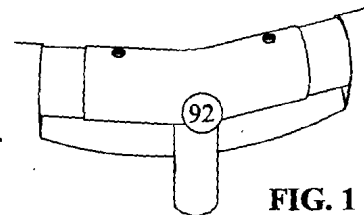

FIG. 1
2. Locate the metal pipe and Tee Fittings for the frame section of the pool. The shorter pipe sections with the larger diameter and the pair of holes at both ends are the Horizontal Beams (91). The longer pipe sections with the smaller diameter and the Spring Pin (95) at one end are the Vertical Legs (94). Take the Horizontal Beams (91) and insert them into the pockets stitched along the top edge of the pool wall. Rotate it in the pocket so that the holes are on the top and bottom of the pipe protruding from each end of the pockets. Take one end of the pipe and insert it into a Tee Fitting aligning the holes with the holes in the Horizontal Beam. Do **NOT** install any of the Pins (93) at this time. Continue around the pool in either direction installing all of the Tee Fittings onto the Horizontal Beams. See Fig 1.